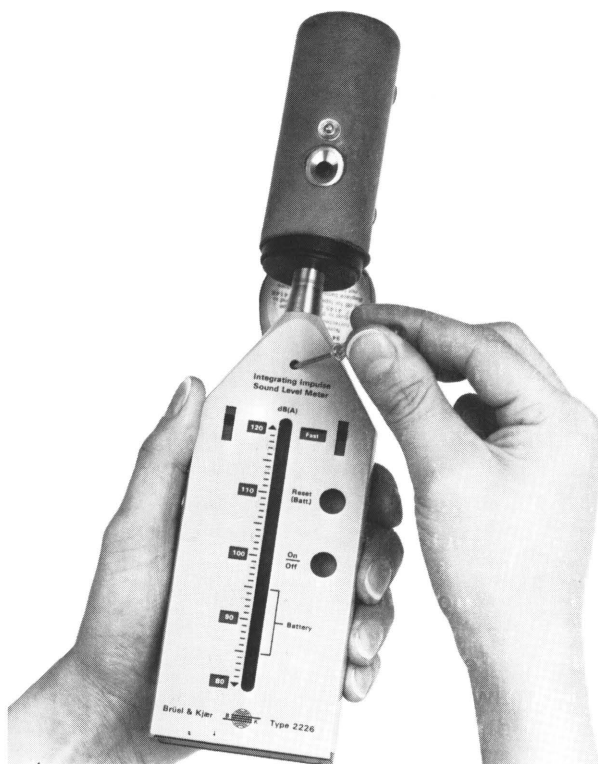

Fig.3.3. Calibrating the instrument
3. Remove the dust cap or windshield from the microphone and fit the calibrator over the microphone so that it seals properly. See Fig.3.3.
6. Switch the Calibrator on and adjust the potentiometer with a small screwdriver as in Fig.3.3 so that the LED at the 93 dB position just extinguishes but the 94 dB LED is lit when "moving up" the scale, i.e. turning the sensitivity potentiometer screw clockwise. This gives a calibration of 93,8 dB to correspond with the half-inch free-field microphone sensitivity, with an accuracy of $\pm 0,1$ dB.